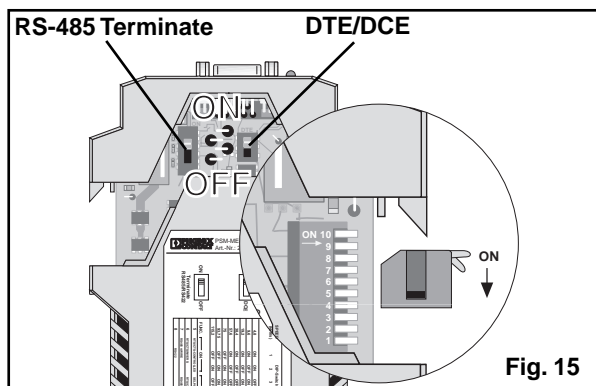

Fig. 15
- 2) If the automatic operating mode was selected, set the transmission rate with the aid of DIP-switches S1-S4 (fig. 15) and the table below.
- 5) If necessary, activate the terminating resistors fig. 15 (Please observe the section 8 on "Terminating resistor for the RS-485/RS-422 interface", page 12).